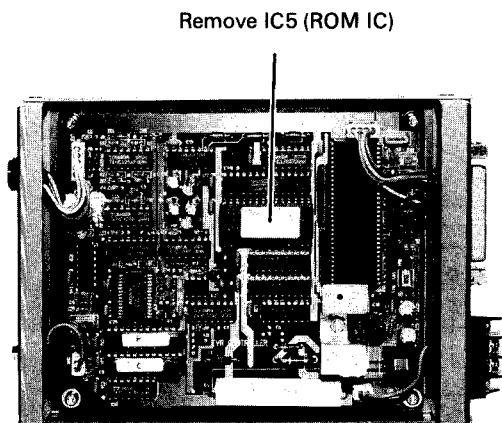

Fig. 2
- Referring to Fig. 2, remove IC5 (ROM IC) on the Main Board of the E.V.R. Adjustment Kit.